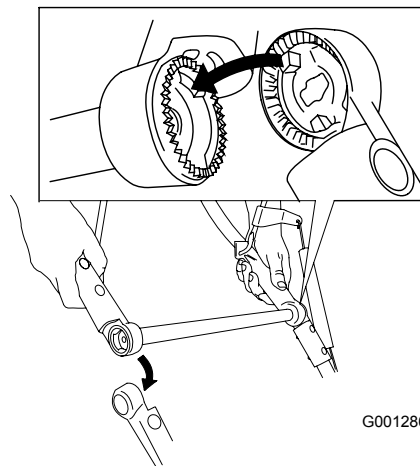

Figure 4
3. Attach the upper handle to the lower handle (Figure 4).